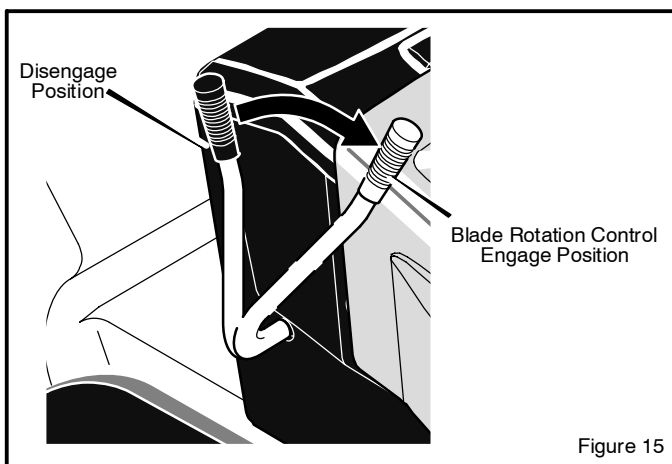

Figure 15
2. Move the **blade rotation control** to the **DISENGAGE position** (Figure 15).